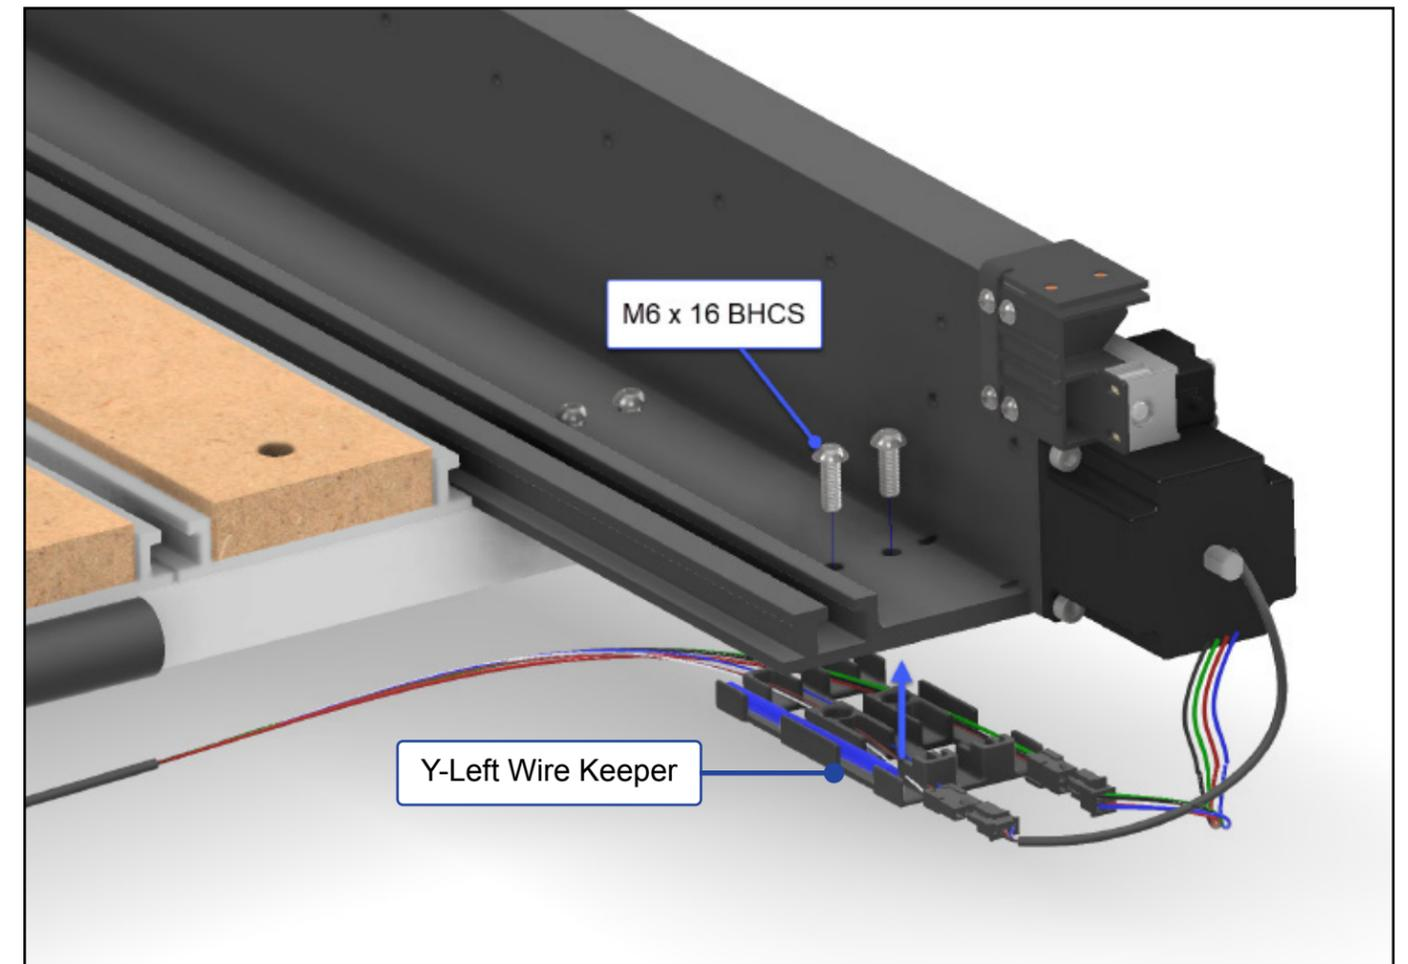

Figure 4-4
4. Slide the wire keeper under the back edge of the Y-Left assembly (right side when standing at the back of the machine). See Fig. 4-4.
5. Use a 4mm hex key and two (2) M6×16mm BHCS to attach the wire keeper to the Y-Left assembly. Fully tighten. See Fig. 4-4.